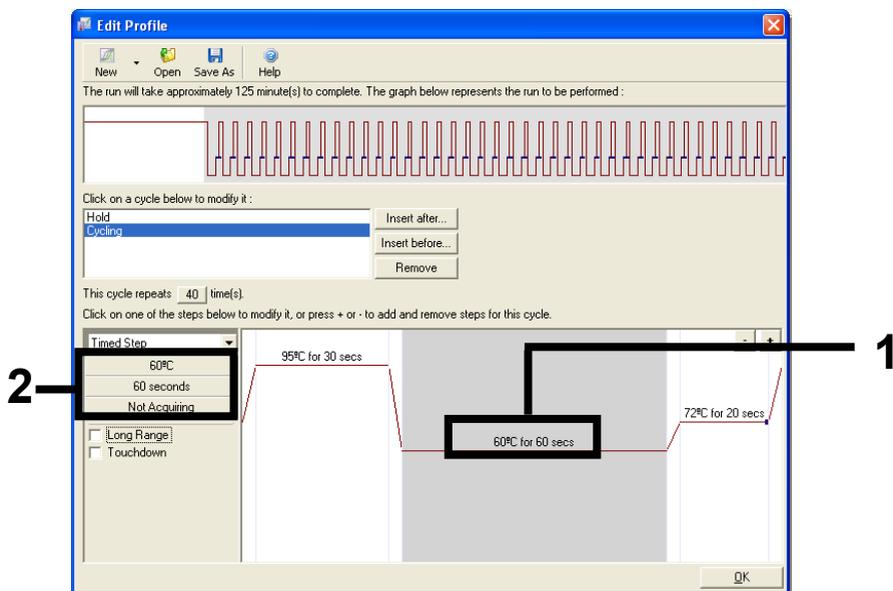

Figure 15. Cycling step at 60°C. 1 = second step temperature and time setting, 2 = Not Acquiring.
- Highlight the second step and set to "60°C for 60 seconds." Enable data acquisition during this step by selecting "Not Acquiring" (Figure 15).